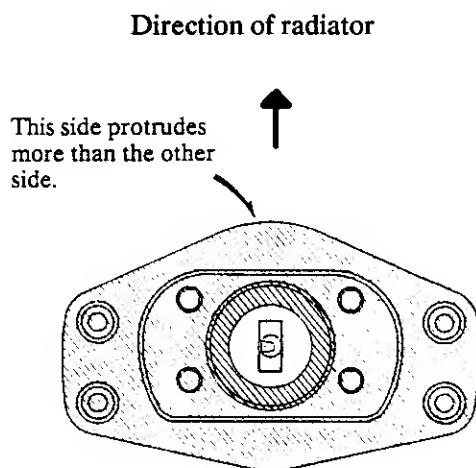

Figure 6-4 Appliance of Silicone Sealant to Surface of Radiator Bracket
2. Apply silicone sealant to the hatched area shown in Figures 6-4 thru 6-6, i.e., on the surface of the radiator bracket and the bottom of the antenna radiator.